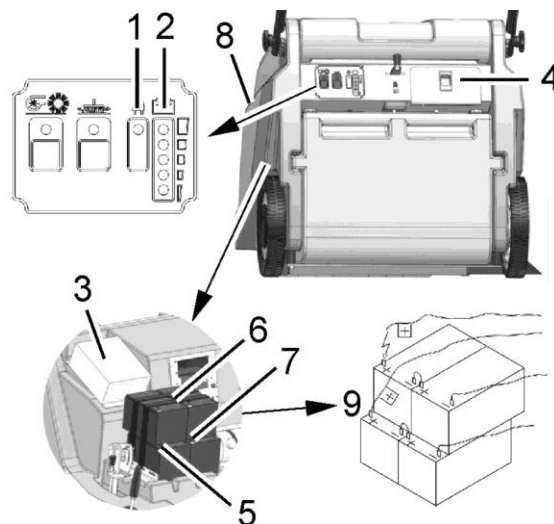

Fig. 7
The charge control indicator (Fig. 7/2) indicates the charge status of the batteries during operation. When the batteries are discharged, the red LED flashes. The machine functions are restricted. Charge the batteries immediately!
The charge control indicator (Fig. 7/2) indicates the charge status of the batteries during operation. The batteries must be charged immediately when the red LED lights up. The batteries (Fig. 7/7) are charged using the integrated battery charger (Fig. 7/3). The charger is connected by means of the power cable (Fig. 7/4).
While the battery is being charged, the battery indicator on the charger (Fig. 7/1) lights up.
4. Slacken the lashing straps (Fig. 7/6).
5. Disconnect the connection cable (Fig. 7/5) from the batteries and remove the batteries.
1. Install the two lower batteries in the battery holder in accordance with Figure 7.
4. Tighten the lashing straps (Fig. 7/6).
5. Connect the battery poles to the connection cables in accordance with the connection plan (Fig. 7/9). It is possible that sparking will occur when connecting the batteries! Check to ensure a firm fit!
6. Close the hood (Fig. 7/8) and lock in place with the locking bolt on the frame.